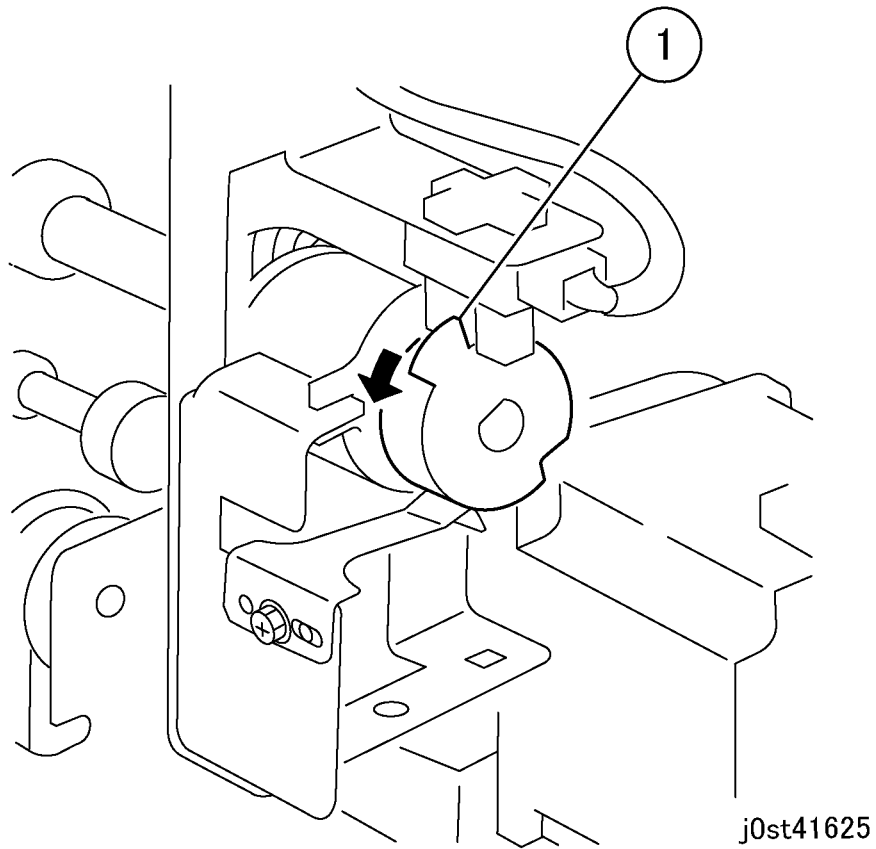

Figure 1 Turning the actuator (j0st41625)
2. Turn the actuator. (Figure 1)